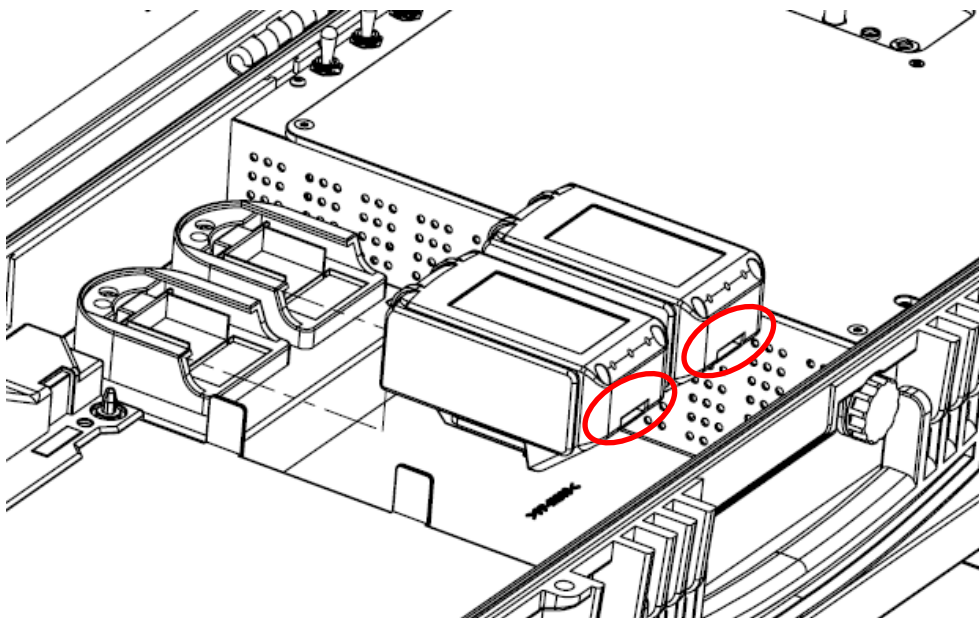

Figure 12 Battery installation
Ground control station uses two COTS Lithium-Ion MAKITA BL1830 batteries (Figure 12). Use only original 18V BL1830 MAKITA batteries (4). To remove the battery push the release button as shown in Figure 12 and pull the battery cartridge away from the mount.